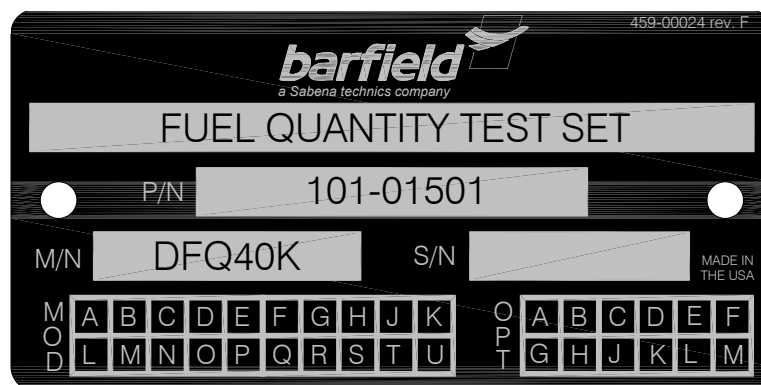

Figure 1 IDENTIFICATION LABEL
- A. The identification label, similar to Figure 1, is located above the handle of the Test Set case and provides the following information: